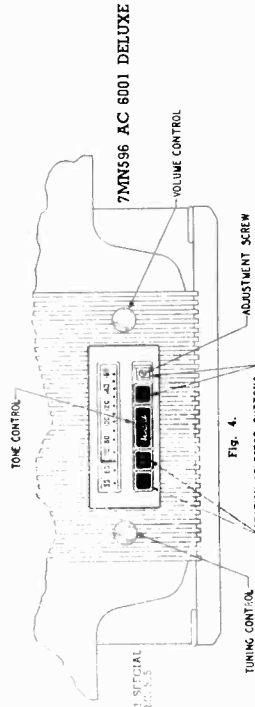
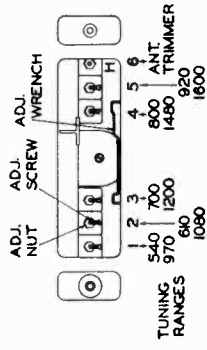

Fig. 4.
FIG. 5
4. Adjust the 1800 K.C. oscillator trimmer F (see Fig. 4) for maximum response.
6. Adjust the R.F. trimmer G (see Fig. 4) and the antenna trimmer H (see Fig. 5) for maximum response.
8. The condenser gang is then rocked slightly while adjusting the 600 K.C. padder I (see Fig. 4) for maximum response.
TRIMMER LAYOUT FIG. 4 MODEL 7ML592
3. Adjust the No. 1 screw (see Fig. 5) with the wrench provided until the desired station is tuned to the loudest point.
4. Adjust No. 1 nut (see Fig. 5) for maximum signal.
- The tuning range is shown below each adjustment number (see Fig. 5).